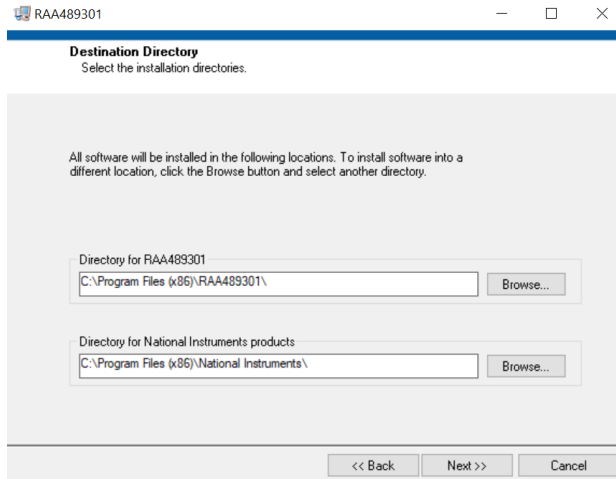

Figure 3. Destination Directory
3. Click **Install RAA489301 USBHID Control Tool** and the **Destination Directory** dialog box appears (see Figure 3).